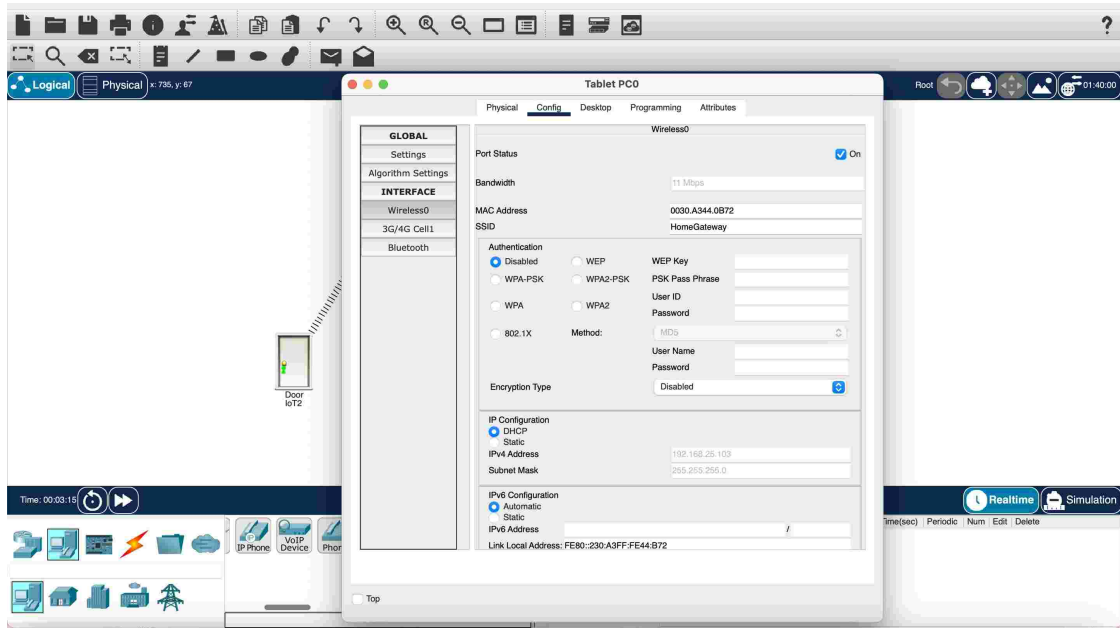

Figure 4.3: Wireless Settings on the Tablet.
- Change the **SSID** from "Default" to "HomeGateway" (see Figure 4.3).